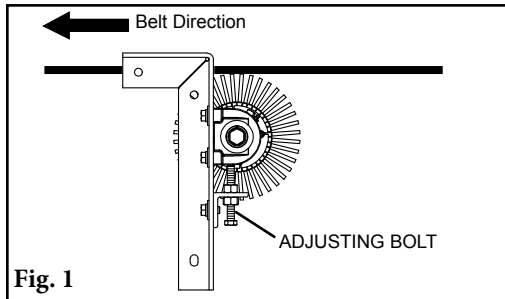

Fig. 1
1. Install the Mounting Brackets. Position the mounting bracket to locate the cleaner shaft centerline 5" (125mm) below the beltline (Fig. 1). The shaft must be installed so the replacement drum does not touch the belt. Pillow block bearings may be raised or lowered by loosening the lock bolts and turning the adjusting bolt as needed. The pillow block bearings should have the set screws facing the outside of the conveyor. Position the brackets perpendicular to the belt.
1. **Remove tension from drum to belt contact.** Lower the adjusting bolts to make room for the new drum (Fig.1).